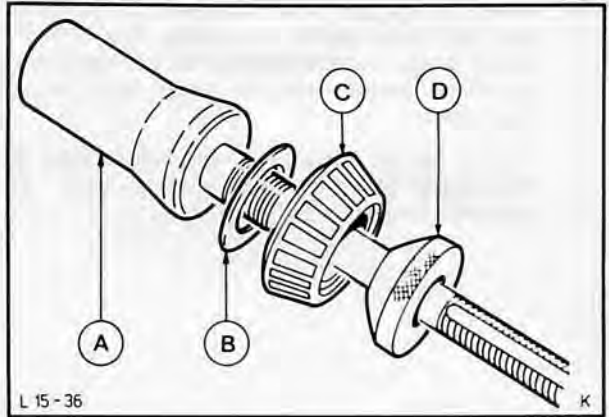

Fig. 31. Master pinion 15-020
14. Slide shim that has been removed or a new shim of any thickness onto master pinion with inner taper roller bearing, Fig. 31.